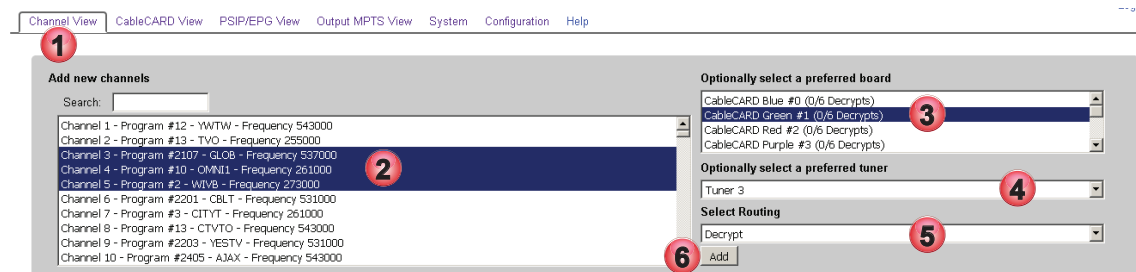

Figure 2-2: Add Programs
- Click to select the **Channel View** tab if it isn't already selected, Figure 2-2.